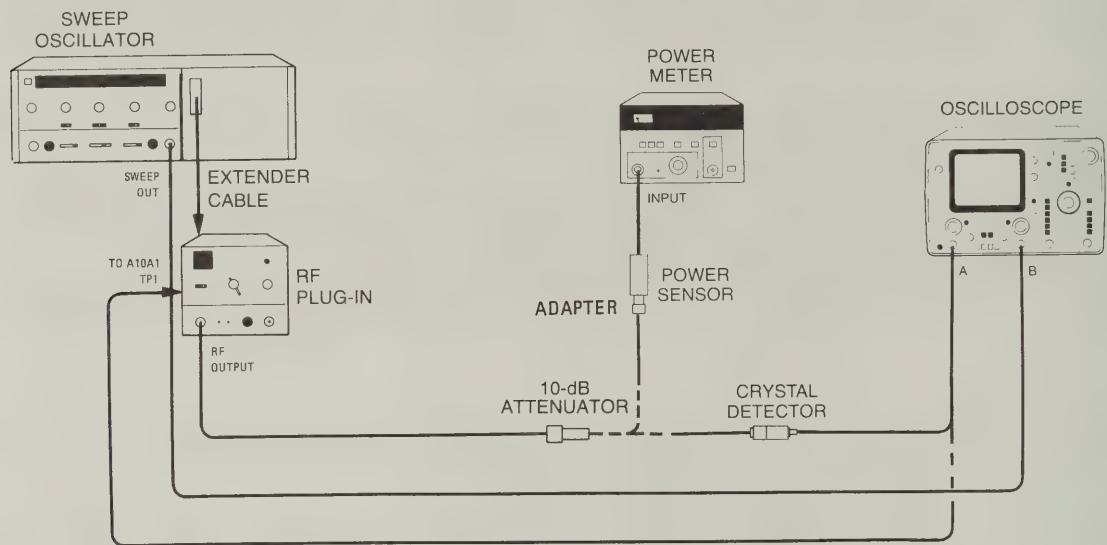

Figure 5-17. YTM Bias Control Adjustment Setup
- e. Connect equipment as shown in Figure 5-17 with oscilloscope, crystal detector, and 10-dB attenuator connected to RF OUTPUT. Press 8620C LINE switch to ON.
- h. Disconnect crystal detector and connect power meter as shown in Figure 5-17.